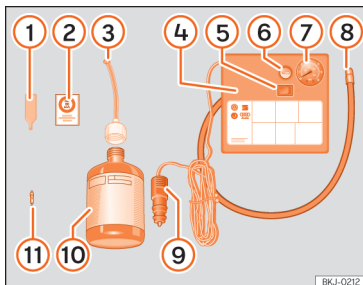

Fig. 32 Standard representation: anti-puncture kit contents.
The anti-puncture kit is located underneath the floor covering in the luggage compartment. It includes the following components » **Fig. 32**:
- Unscrew the tyre valve cap and insert. Use the » **Fig. 32** ① tool to remove the insert. Place it on a clean surface.
- Shake the tyre sealant bottle vigorously » **Fig. 32** ⑩.
- Screw the inflator tube » **Fig. 32** ③ into the sealant bottle. The bottle's seal will break automatically.
- Remove the lid from the filling tube » **Fig. 32** ③ and screw the open end of the tube into the tyre valve.
- Place the insert back into the tyre valve using the tool » **Fig. 32** ①.
- Screw the compressor tyre inflator tube » **Fig. 32** ⑧ into the tyre valve.
- Check that the air bleed screw is closed » **Fig. 32** ⑥.
- Insert the connector » **Fig. 32** ⑨ into the vehicle's 12-volt socket » **page 151**.
- Turn the air compressor on with the ON/OFF switch » **Fig. 32** ⑤.
- Attach the sticker »» Fig. 32 ② to the instrument cluster, within the driver's visual field.
Screw the inflator tube »» Fig. 32 ⑤ again and check the pressure on the gauge ⑥.